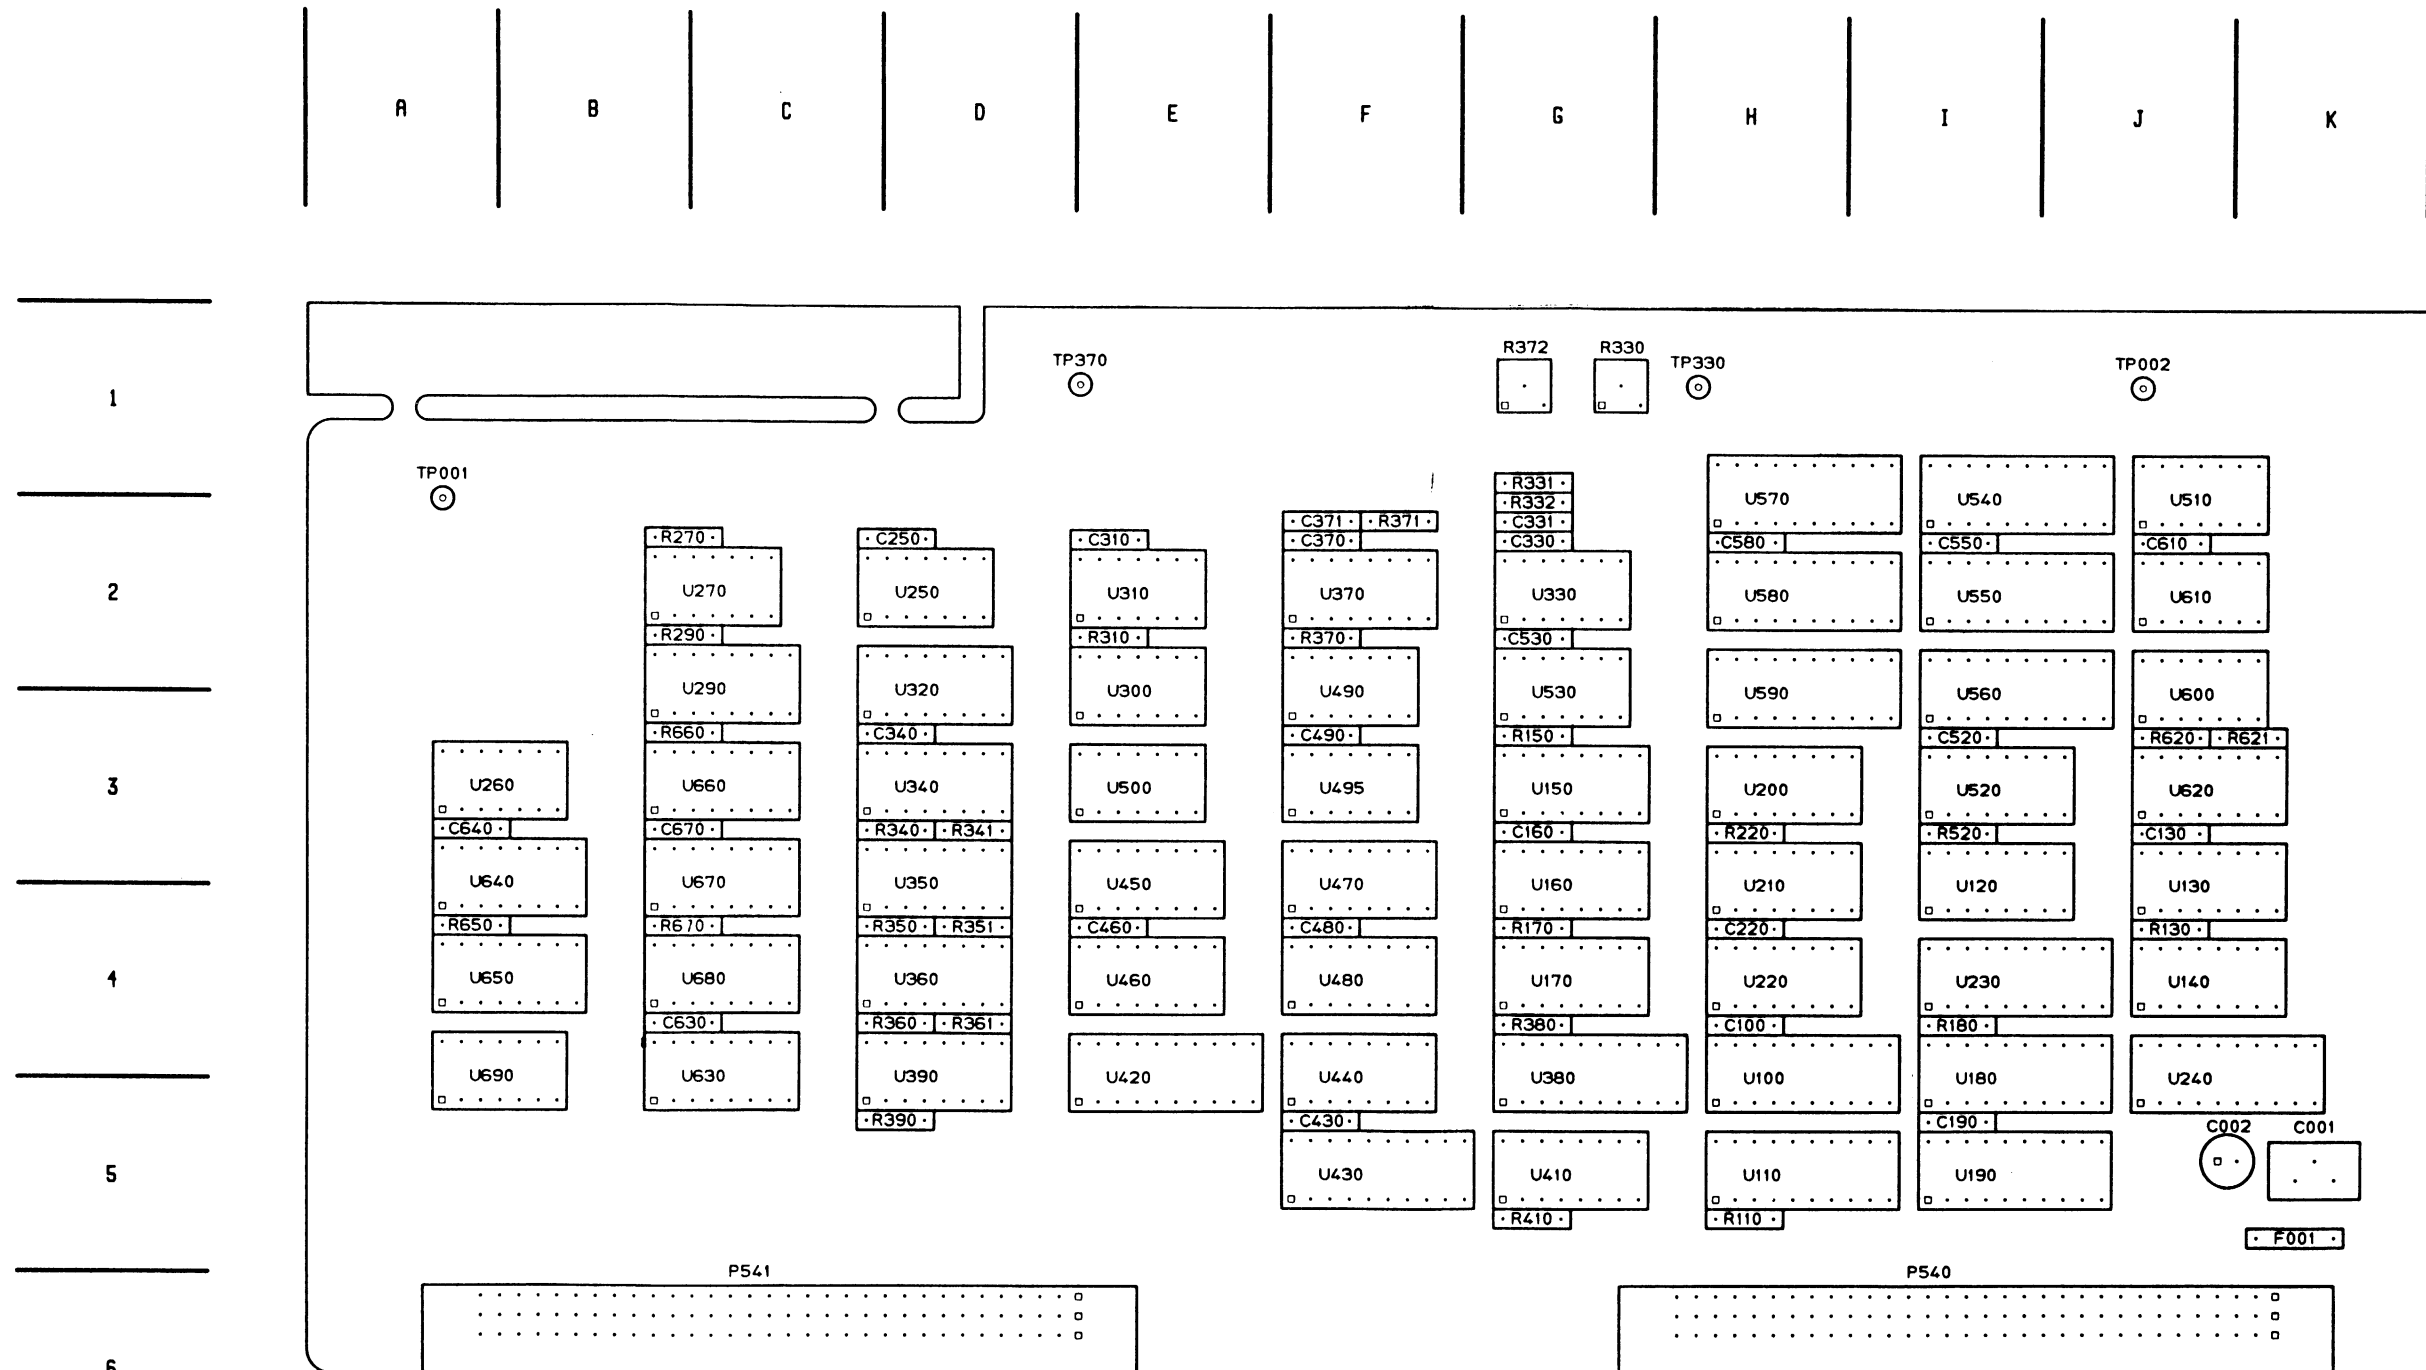

Fig. 8-15. A54 DISPLAY BD., CIRCUIT BD. ASS.
**ASSY A54 (Fig.8-15) circuit board illustration faces Diagram 51.**
ASSY A54 (Fig.8-15) circuit board illustration faces Diagram 51.